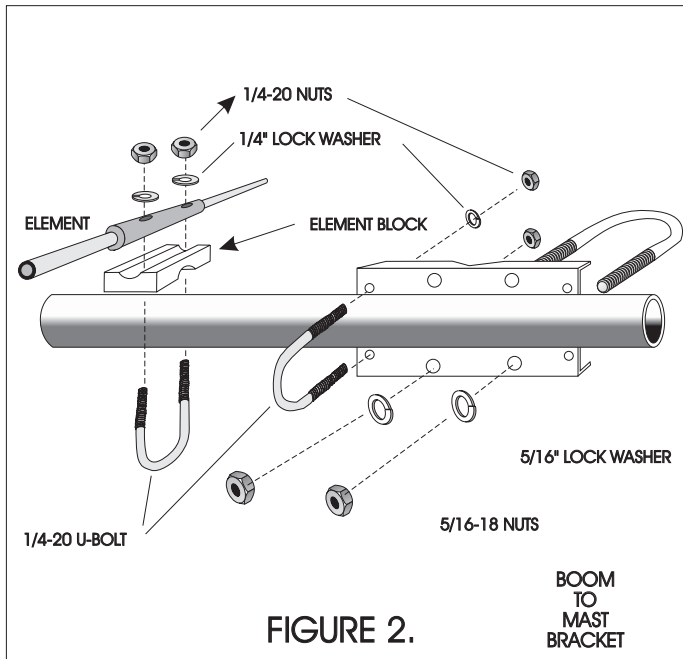
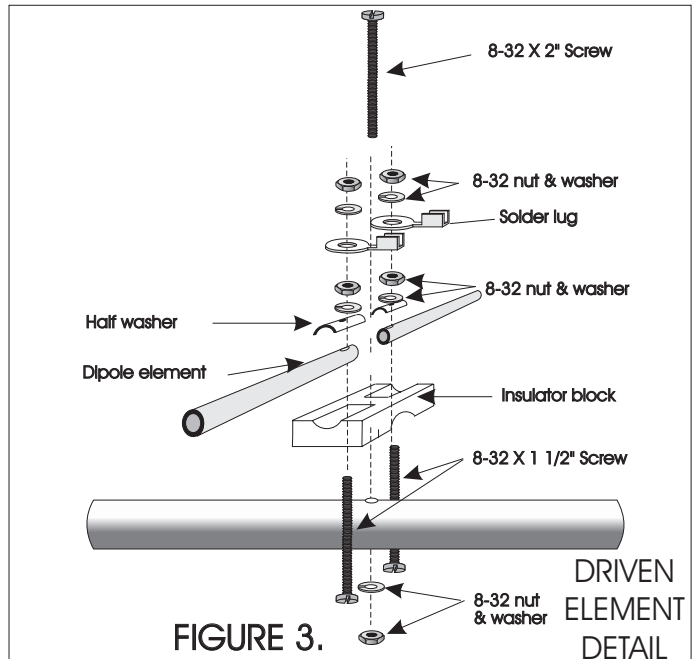
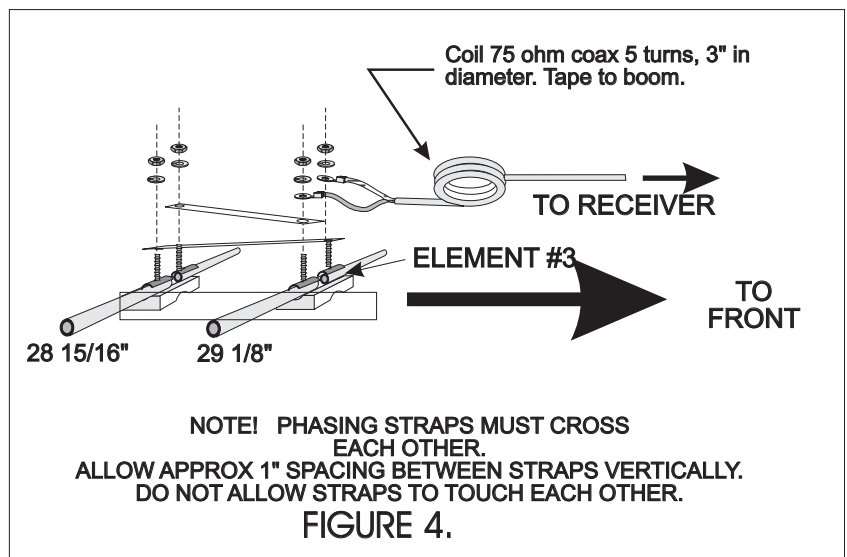

FIGURE 2.
FIGURE 3.
FIGURE 4.
3. Assemble the two driven elements as shown in figure 3 and place them on the boom as well. These two elements are connected together with the two 3/8" wide x 10 3/4" long PHASING STRAPS as shown in figure 4. Note that your lead in wire will connect to element #3. (toward the front)
4. Attach the boom to mast plate at the balance point of the antenna. (See FIG 2.) Attach a 75 ohm coaxial lead in cable to the #8-32 machine screw terminals on element #3 (See Fig. 4). Prepare the cable as shown, and tape the cable to the supporting mast to avoid movement in windy weather. Place the antenna on your support mast and tighten U-bolts to lock antenna in position. The antenna elements should be parallel to the horizon for proper horizontal polarization. Maximum pickup will be as shown in Fig #1, in the direction away from the coax cable attachment point.